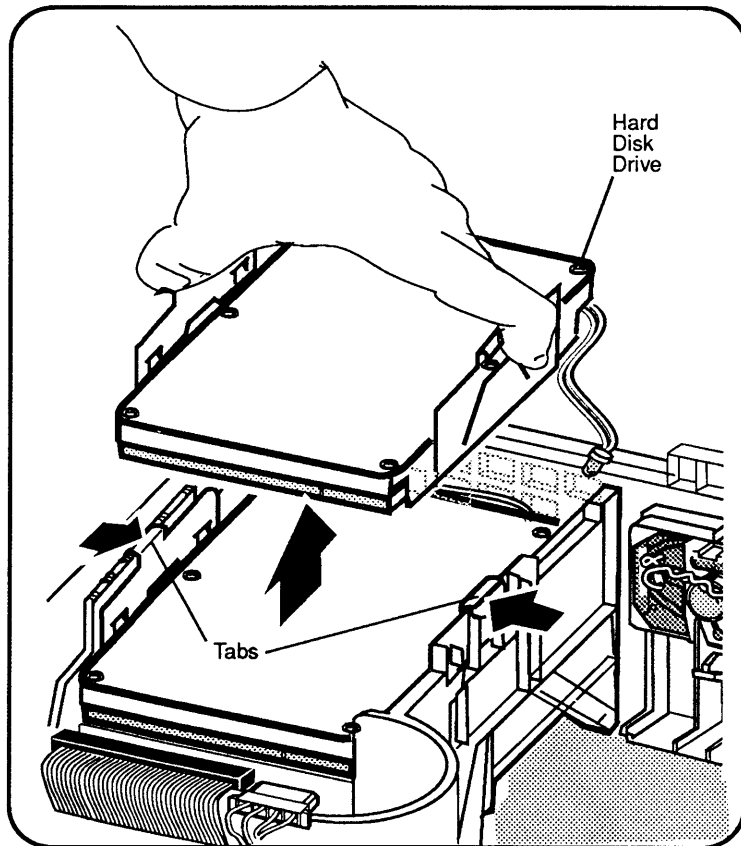

Figure 2-9 Hard Disk Drive Carrier
5. Grasp the two metals tabs (**Figure 2-9**) on the side of the hard disk drive carrier. Squeeze the tabs and gently pull up the carrier.